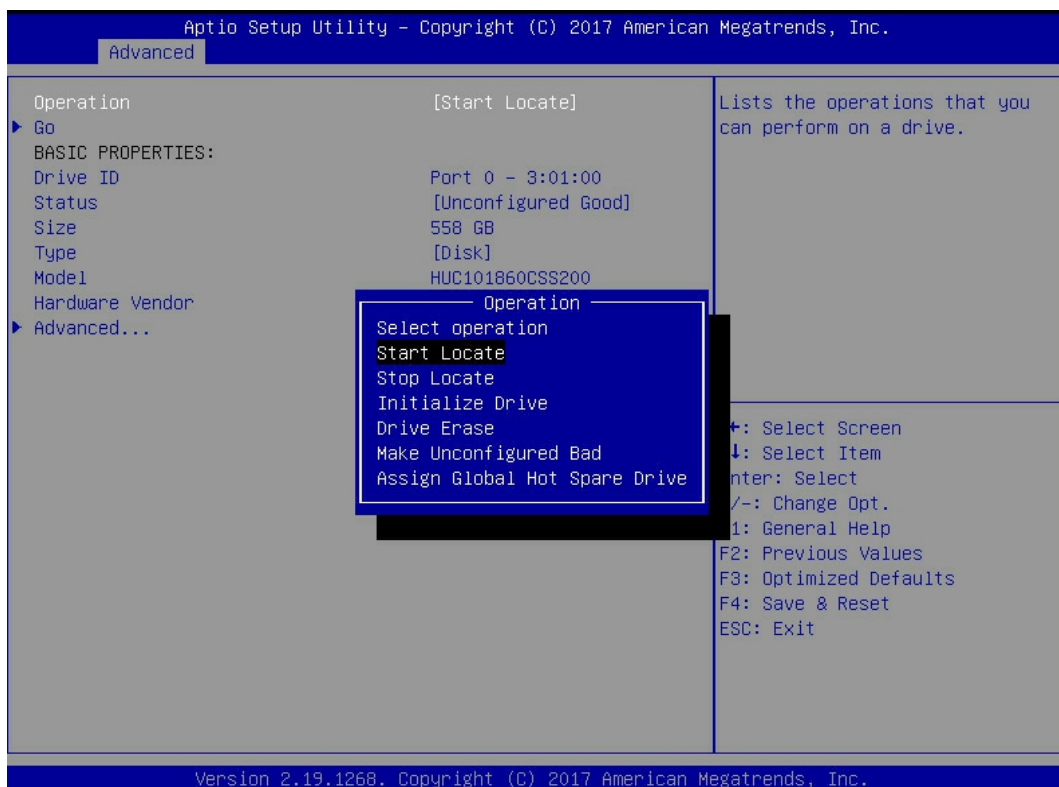

Figure 6-57
c) Enter the interface shown in figure 6-57, select operation, press enter, and then select Start locate in the pop-up dialog box and press enter.
✧ Figure 6-57 operation interface